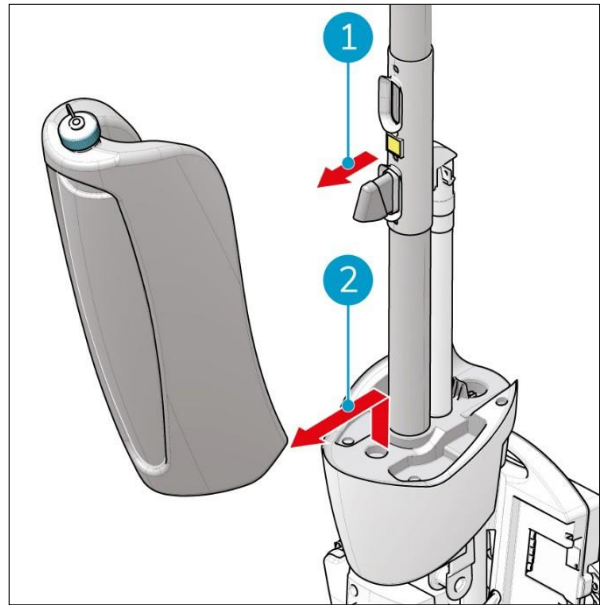

Figure 29
1. Pull the top of the recovery tank outwards (Figure 29, pos 1).